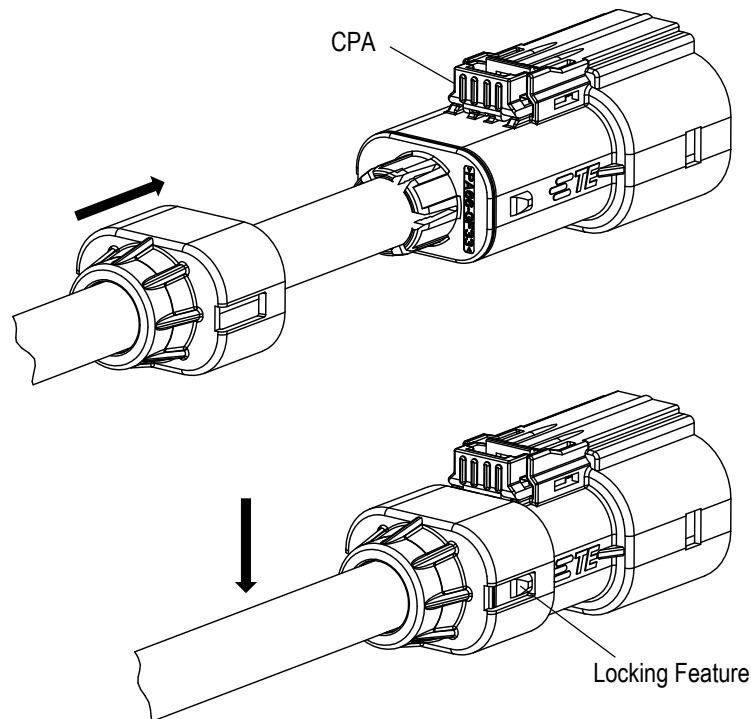

Figure 19
18. Slide the cable seal retainer forward on the cable and over the cable exit end of the connector assembly until it fully locks to the connector outer housing. Visually check to ensure that both locking features are engaged and the CPA is in the correct position as shown in Figure 19. Gently pull back on the cable seal retainer to check that it is fully locked in place.